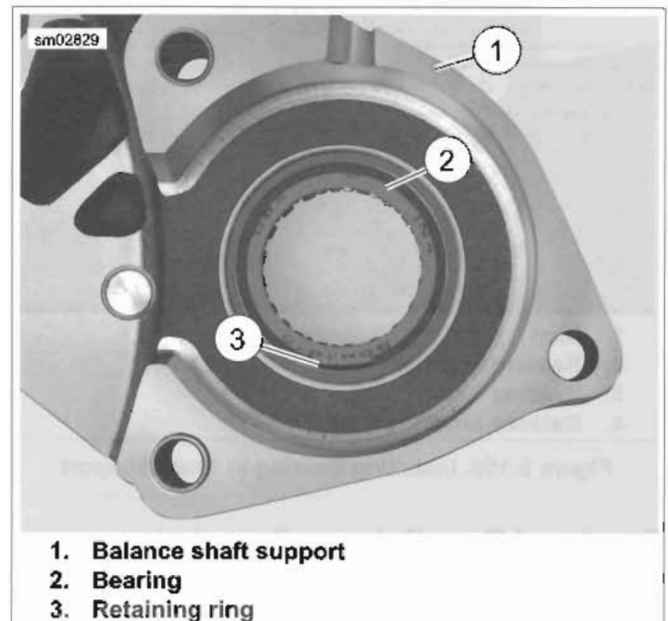
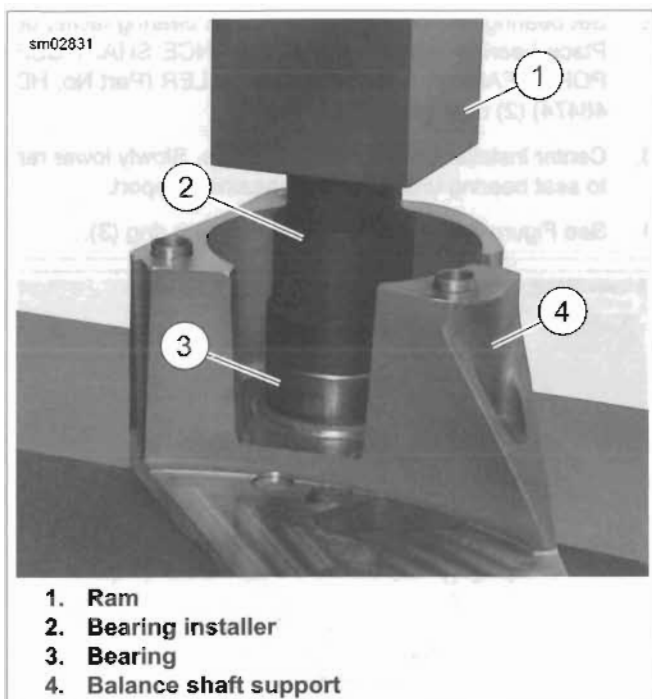

Figure 3-154. Balance Shaft Support Bearing
Figure 3-156. Installing Bearing in Shaft Support
- See Figure 3-154. Remove retaining ring (3)
- See Figure 3-156. Place balance shaft support (4) upside down on a suitable support.
- Set bearing on housing with letters on bearing facing up. Place bearing installer end of **BALANCE SHAFT SUPPORT BEARING REMOVER/INSTALLER** (Part No. HD-48474) (2) over bearing (3).
- Center installer under ram (1) of press. Slowly lower ram to seat bearing until it fits flush against support.
- See Figure 3-154. Install a **new** retaining ring (3).